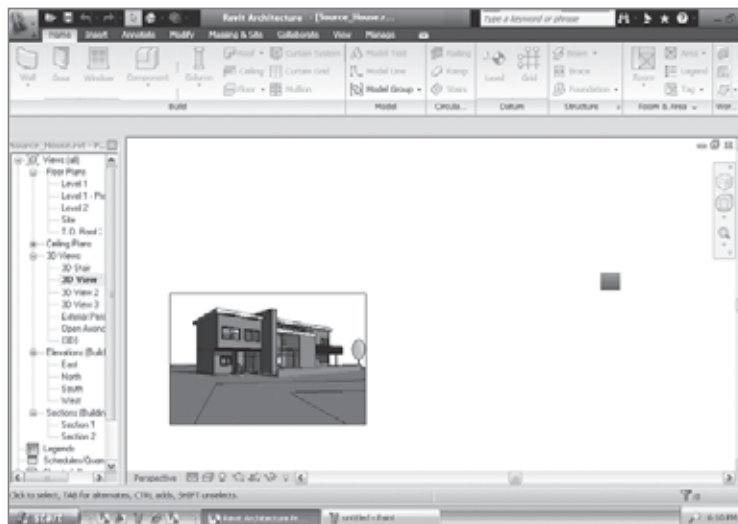

Figure 12.3
**Current Window** This option prints the full extent of the open view, regardless of what extents of that view are visible currently on your screen. For example, if Figure 12.3 is what you see in Revit, Figure 12.4 will be the output when Current Window is selected.